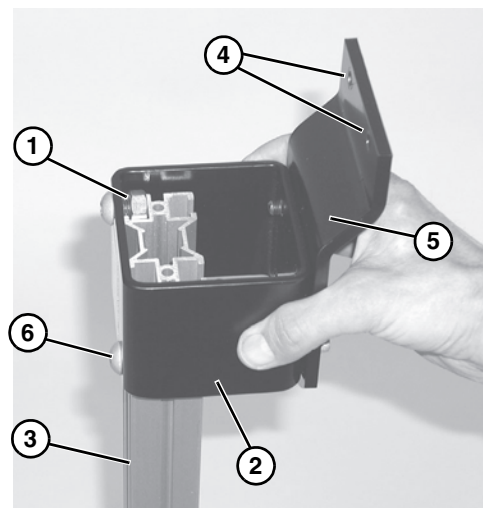

Figure 10
13. Align hex nuts (**Figure 10, item 1**) on leg support (**Figure 10, item 2**) to t-slots at top, outside of stand leg (**Figure 10, item 3**). Slide leg support down stand leg until conveyor mounting holes (**Figure 10, item 4**) on pivot bracket (**Figure 10, item 5**) are approximately the same height as the lower t-slots on conveyor. Tighten button head screws (**Figure 10, item 6**) just enough to keep leg support in position.
Failure to secure screws (Figure 10, item 6) may cause conveyor sections to drop down causing severe injury.
TIGHTEN SCREWS (Figure 10, item 6) AFTER ADJUSTMENT.
20. Tighten four button head screws (**Figure 10, item 6**) to 17 ft-lb (22.5 N-m).